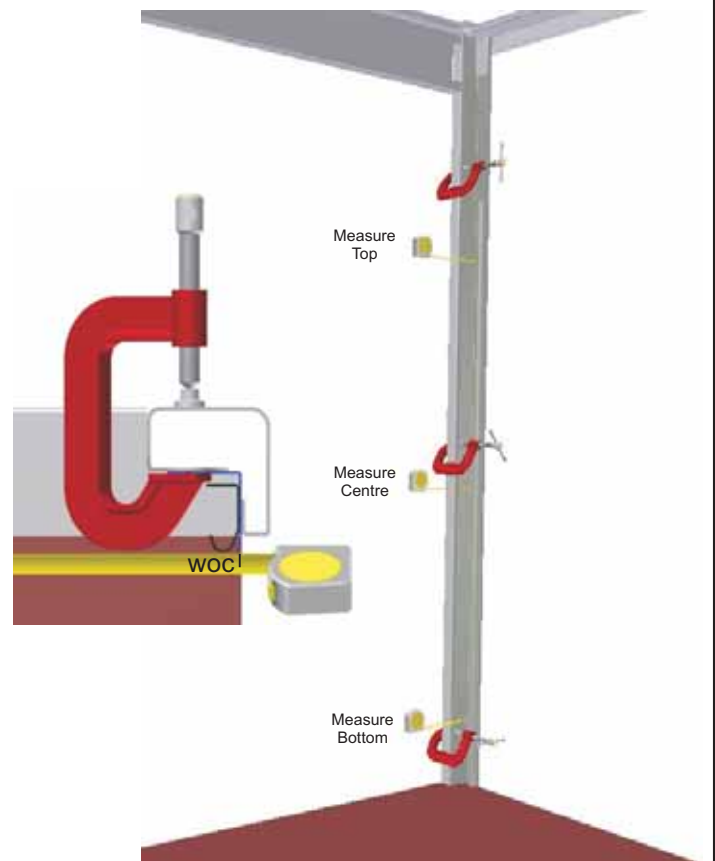

Fig 3
- Check that they are parallel with each other by taking measurements at top, bottom and middle. (See Figure 3)